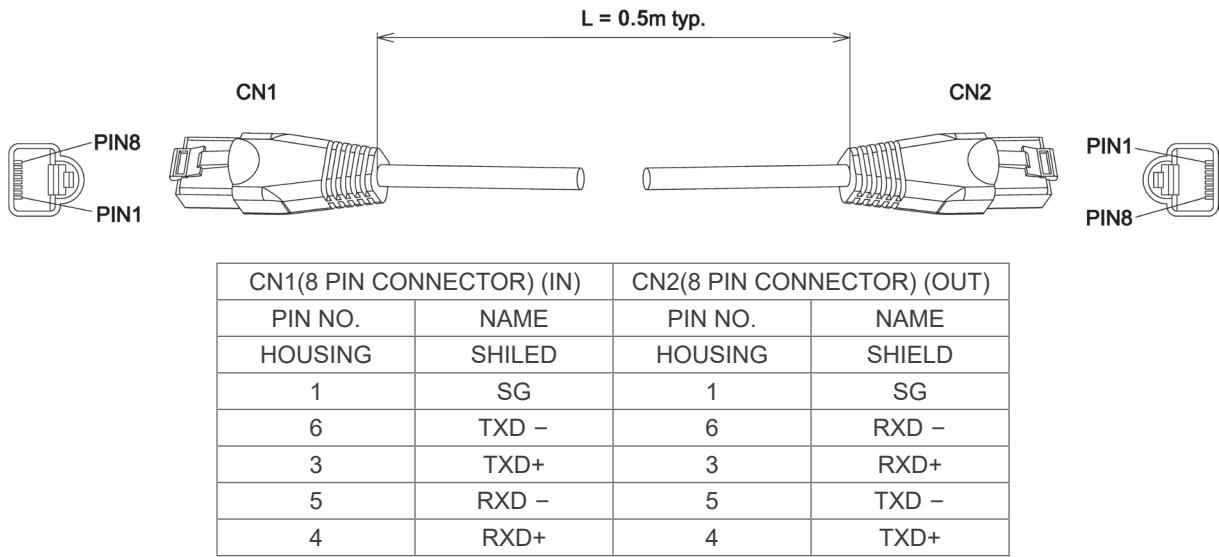

Fig 4-8: Serial link cable with RJ-45 shielded connectors
- Using the Linking cable supplied with each unit (refer to Fig. 4-8), connect each unit OUT connector to the next unit IN connector.